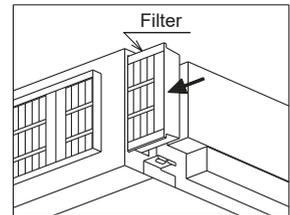

Fig.3
- (3) Insert the filter through the opening in the filter box. After the filter has been inserted, close the cover (removed in step(1)) and tighten the screws. (Fig. 3)